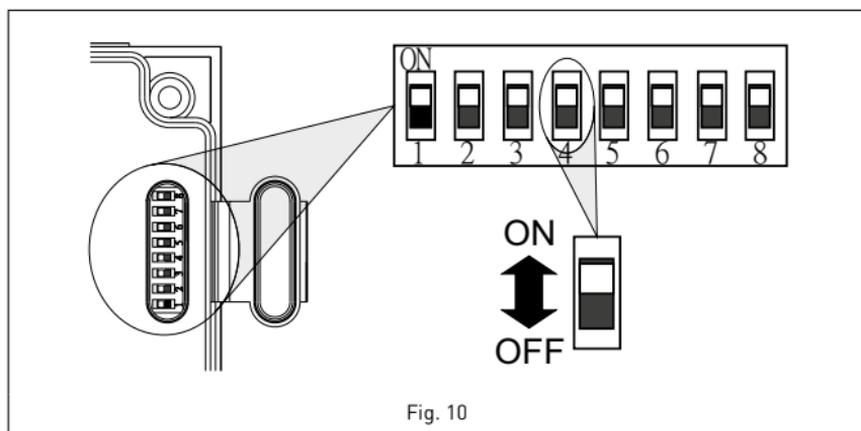

Fig. 10
Each dip-switch has two positions [ON (1) and OFF (0)] which are selected with the small plastic screwdriver supplied with the fan (fig.10):